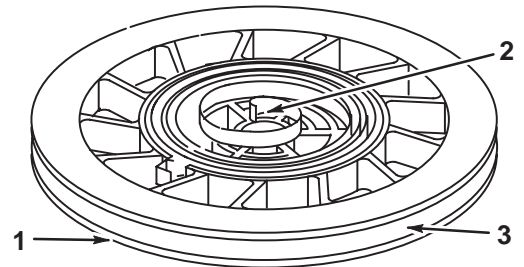

Fig. 74 – Inspecting Pulley
1. Inspect pulley for wear, cracks, rough edges or burrs in pulley groove and wear on center hole, Fig. 74.